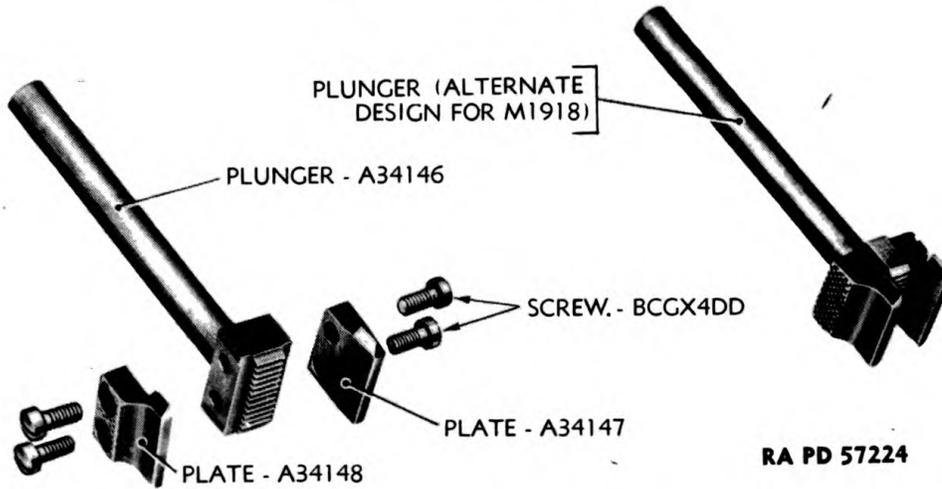

Figure 12—Gunner's Quadrants M1 and M1918—Plungers
- (6) **DISASSEMBLE PLUNGER ASSEMBLY** (fig. 12). Remove the four screws holding the two plates to the end of plunger, and remove plates. Scribe mark the plates so that they will be properly replaced.
b. **Assemble Plunger Assembly (fig. 12).** Secure the two plunger plates in their proper places on end of plunger assembly with four screws.